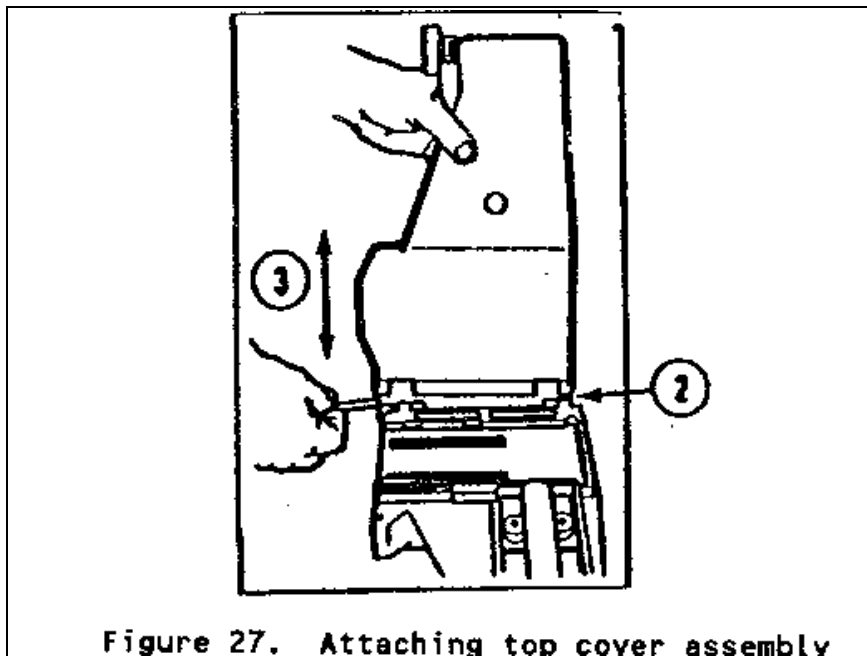

Figure 26. Attaching top cover assembly
- i. Attach Top Cover Assembly. (See Figure 26.)
- (1) With feed tray in place, line up: (a) pinholes in feed tray, (b) pinholes in top cover, and (c) receiver lugs.
- (2) Hold top cover STRAIGHT UP. Insert top cover pins, both sides.